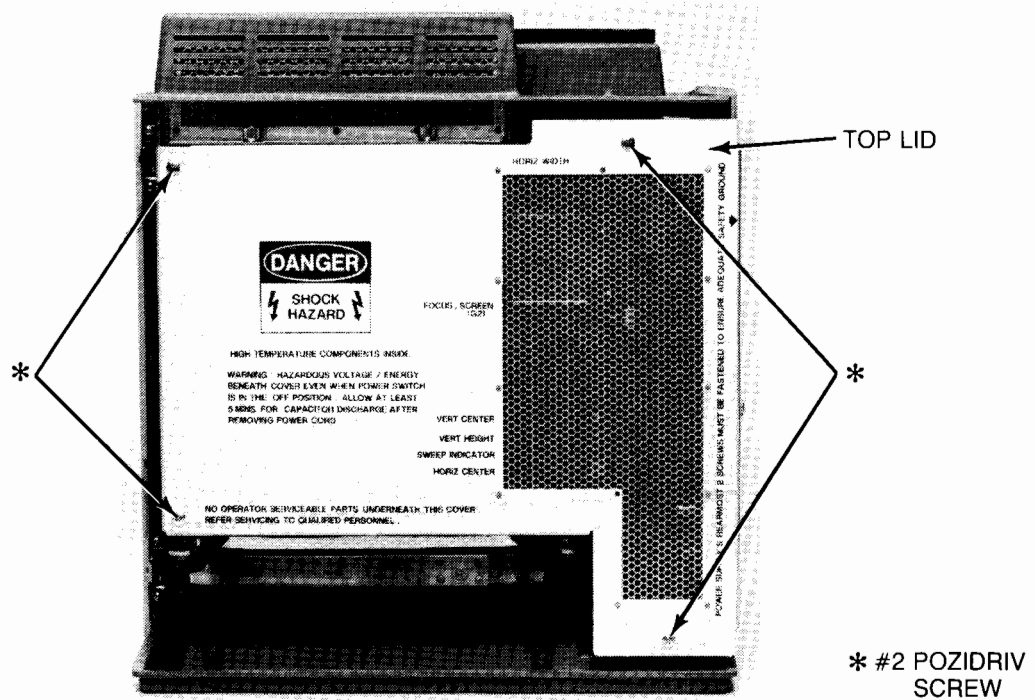

Figure 4-79. Removing Top Lid
2. Loosen four 1/4-turn #1 Pozidriv captive screws and remove top lid from display (Figure 4-79).
3. Loosen four 1/4-turn #1 Pozidriv captive screws and remove top lid from display (Figure 4-79).